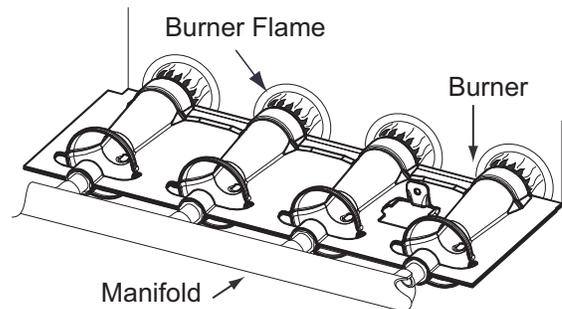

Fig. 15 - Burner Flame
8. When correct input is obtained, main burner flame should be clear blue, almost transparent (See Fig. 15).
13. When correct input is obtained, main burner flame should be clear blue, almost transparent (See Fig. 15).